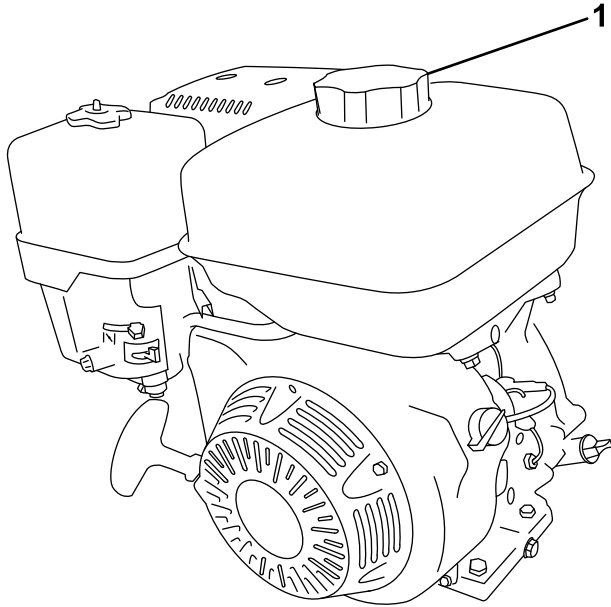

Figure 25
2. Clean around the fuel cap and remove it (Figure 25).
4. Install the fuel cap securely (Figure 25).